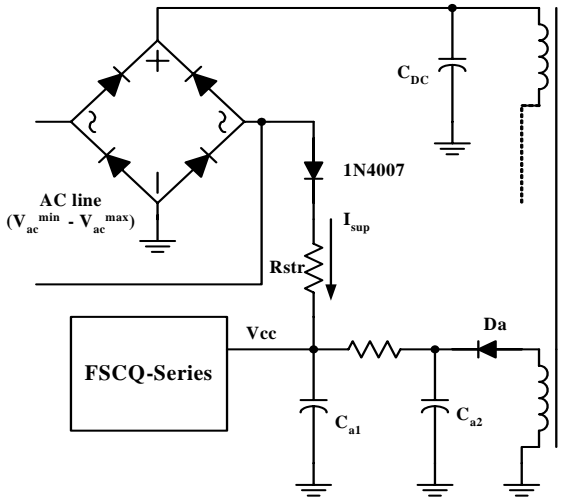
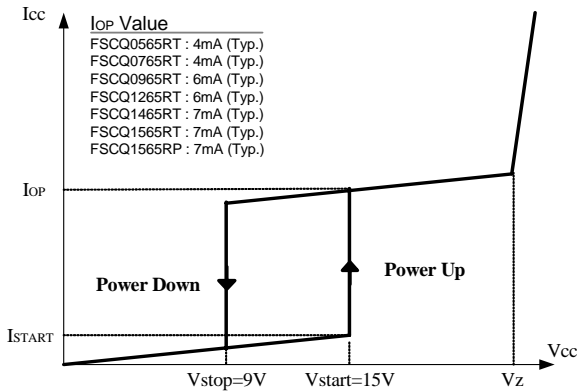

Figure 4. Startup circuit
Figure 5. Relationship Between Operating Supply Current and V_{cc} Voltage
1. **Startup:** Figure 4 shows the typical startup circuit and the transformer auxiliary winding for the FSCQ-Series. Before the FSCQ-Series begins switching, it consumes only startup current (typically 25uA). The current supplied from the AC line charges the external capacitor (C_{a1}) that is connected to the V_{cc} pin. When V_{cc} reaches the start voltage of 15V (V_{START}), the FSCQ-Series begins switching, and its current consumption increases to I_{OP}. Then, the FSCQ-Series continues its normal switching operation and the power required for the FSCQ-Series is supplied from the transformer auxiliary winding, unless V_{cc} drops below the stop voltage of 9V (V_{STOP}). To guarantee the stable operation of the control IC, V_{cc} has under voltage lockout (UVLO) with 6V hysteresis. Figure 5 shows the relationship between the operating supply current of the FSCQ-Series and the supply voltage (V_{cc}).